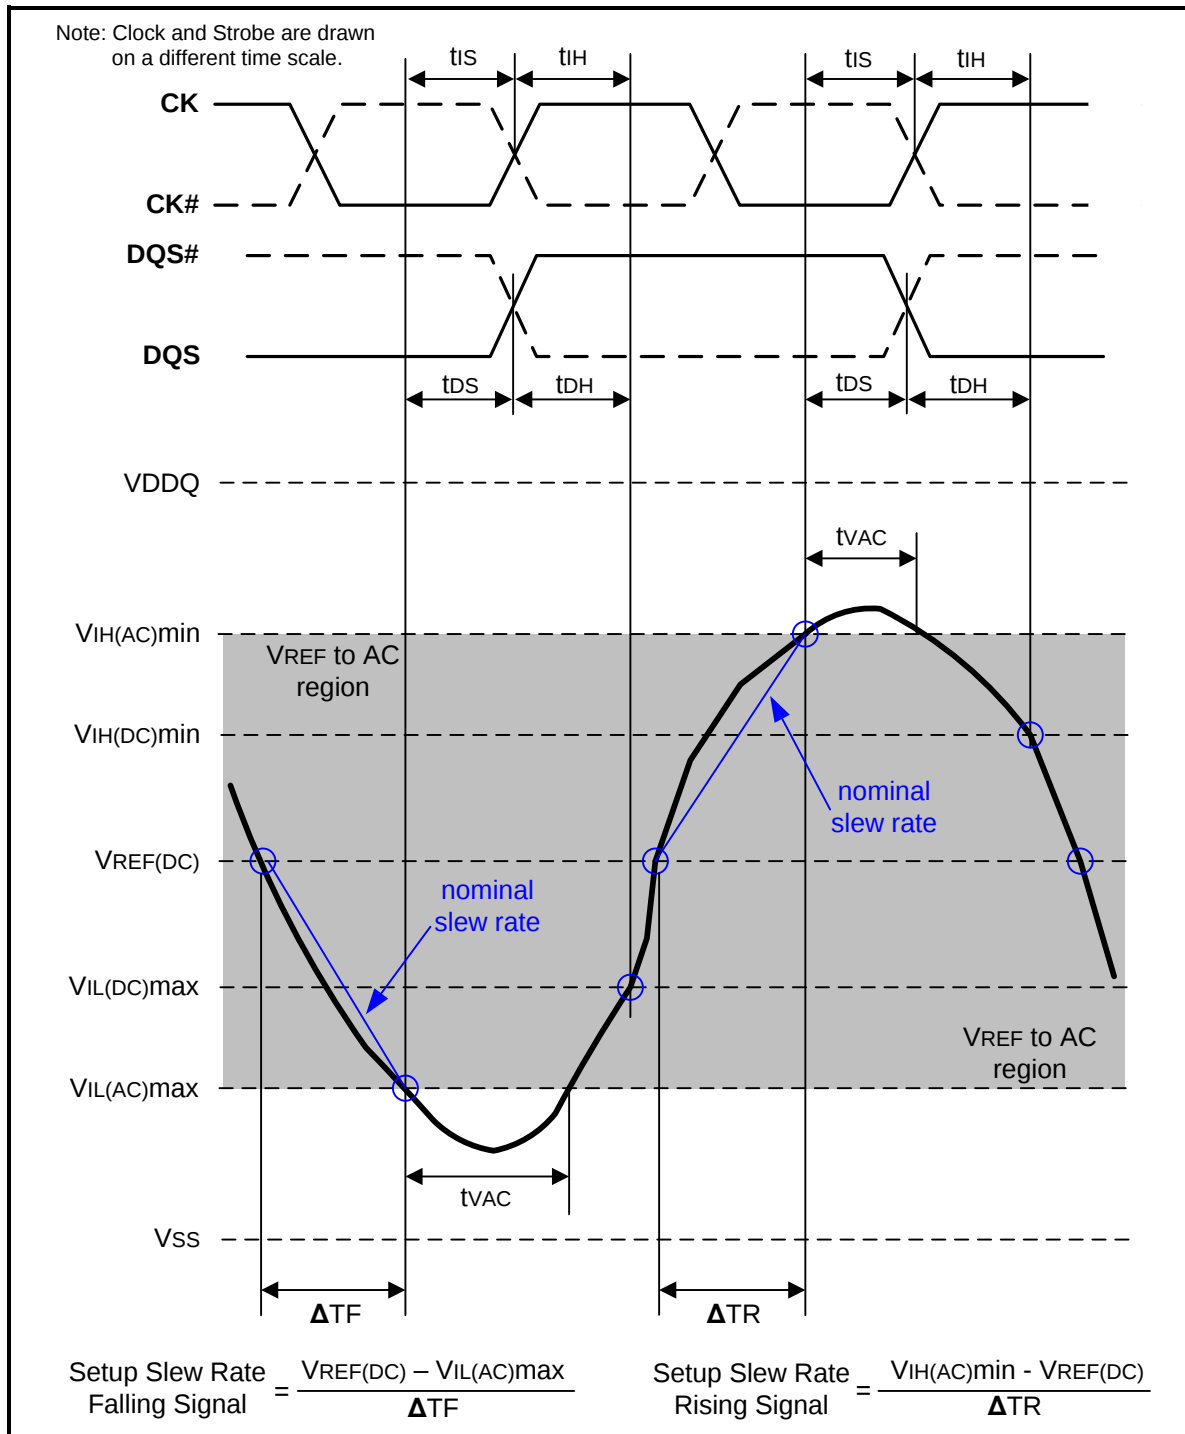
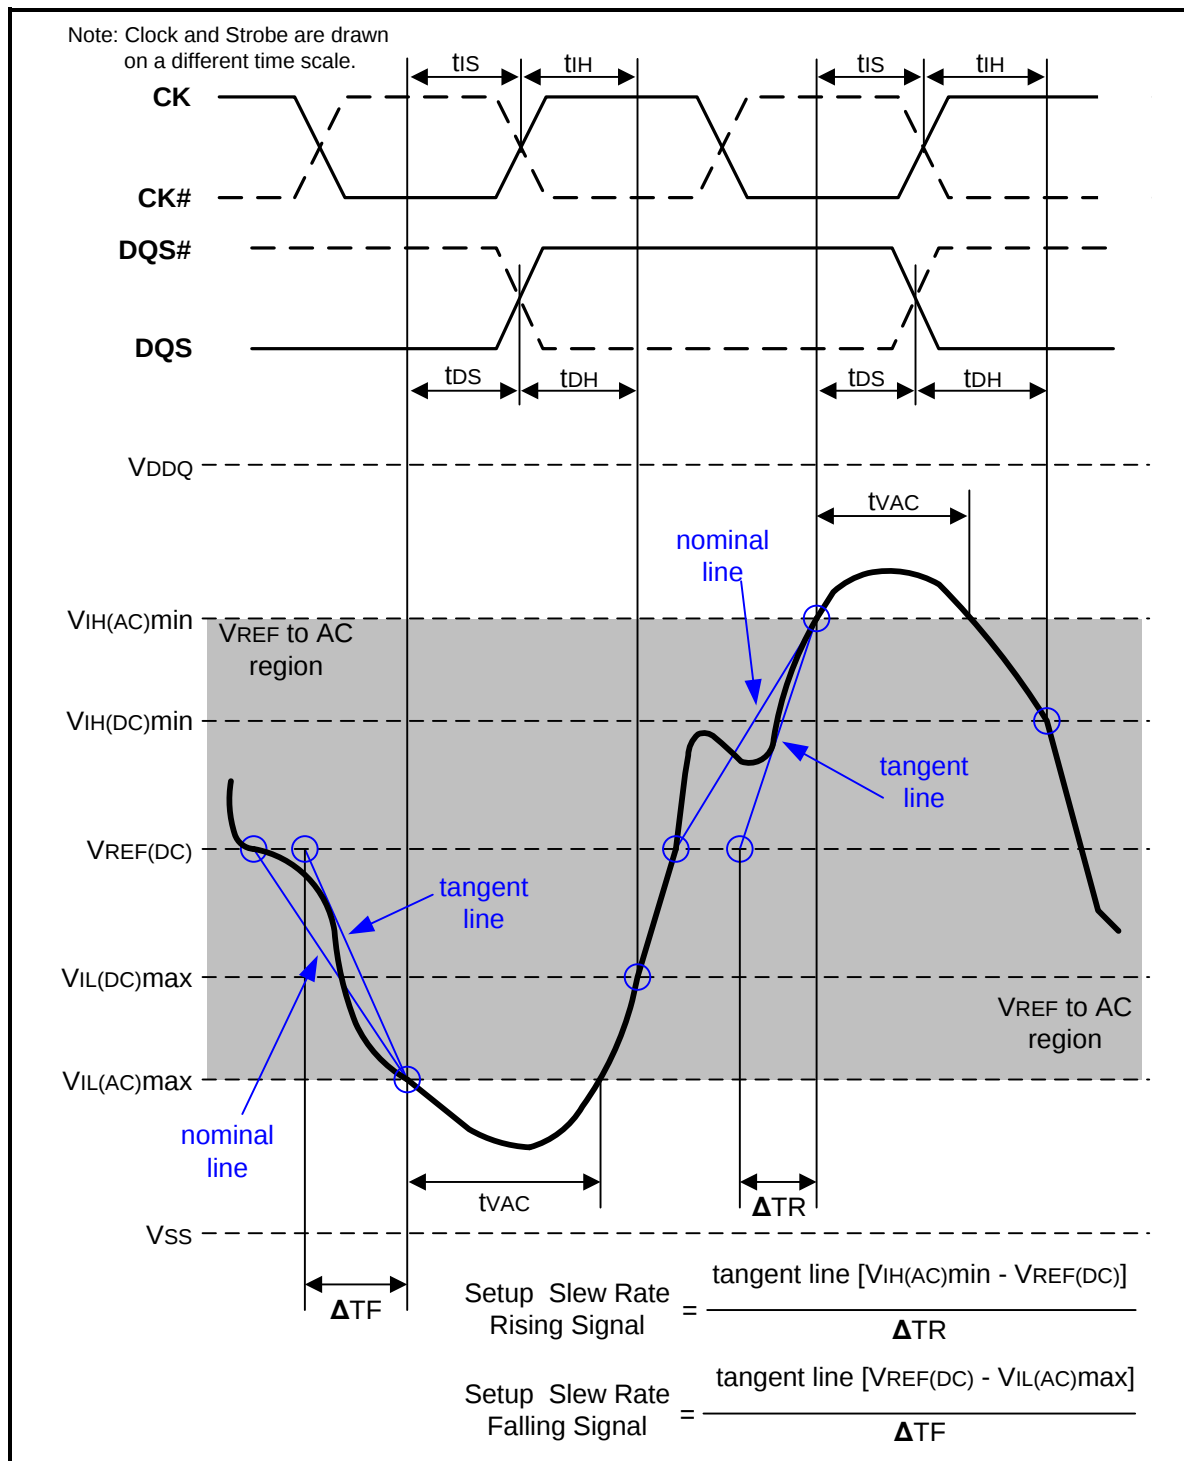

Figure 107 – Illustration of nominal slew rate and tv_{AC} for setup time t_{DS} (for DQ with respect to strobe) and t_{IS} (for ADD/CMD with respect to clock)
Figure 109 – Illustration of tangent line for setup time t_{DS} (for DQ with respect to strobe) and t_{IS} (for ADD/CMD with respect to clock)
Setup (tDS) nominal slew rate for a rising signal is defined as the slew rate between the last crossing of VREF(DC) and the first crossing of VIH(AC)min. Setup (tDS) nominal slew rate for a falling signal is defined as the slew rate between the last crossing of VREF(DC) and the first crossing of VIL(AC)max (see Figure 107). If the actual signal is always earlier than the nominal slew rate line between shaded 'VREF(DC) to AC region', use nominal slew rate for derating value. If the actual signal is later than the nominal slew rate line anywhere between shaded 'VREF(DC) to AC region', the slew rate of a tangent line to the actual signal from the AC level to VREF(DC) level is used for derating value (see Figure 109).